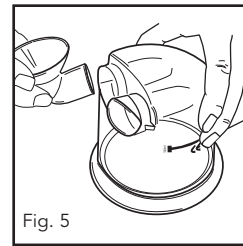
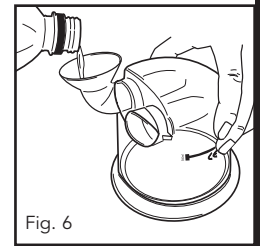

Fig. 5
Fig. 6
4. With the aid of the supplied funnel (Fig. 5), fill the chamber with enough distilled water for the period of use, but never above the 560 mL fill line (Fig. 6). The table below gives approximate usage time in hours for which the unit will humidify when filled to 560 mL, for a range of flow settings.